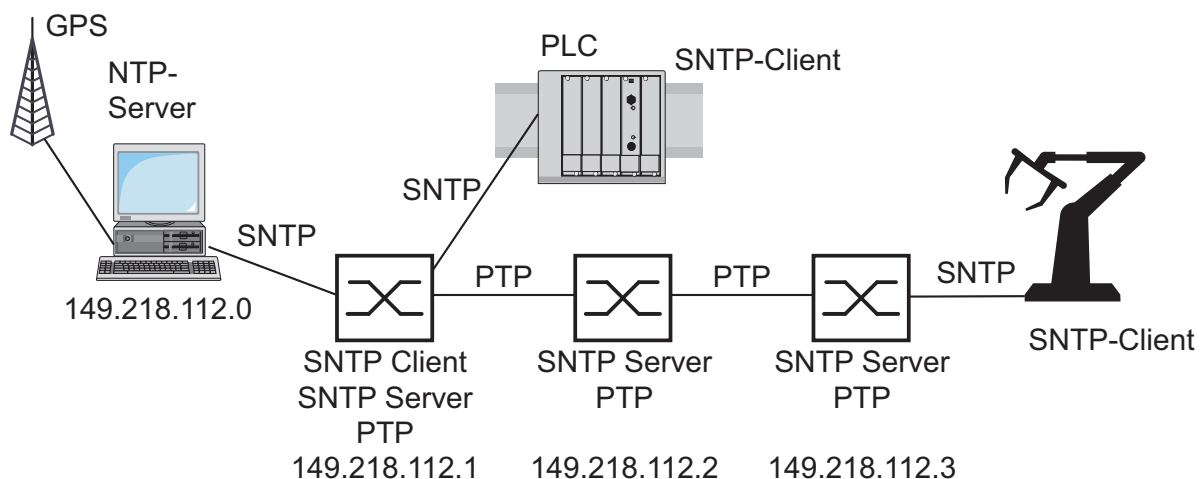

Fig. 32: Example of the coexistence of PTP and SNTP.
*Tab. 5: Settings for the example (see Fig. 32)*
If you want the switch to receive the system time using SNTP, make sure that the best clock is connected to the SNTP server. Thus, both protocols receive the time from the same server. The example (see Fig. 32) shows such an application.
The requirements made to network time accuracy are rather high, however the terminal devices exclusively support SNTP (see Fig. 32).